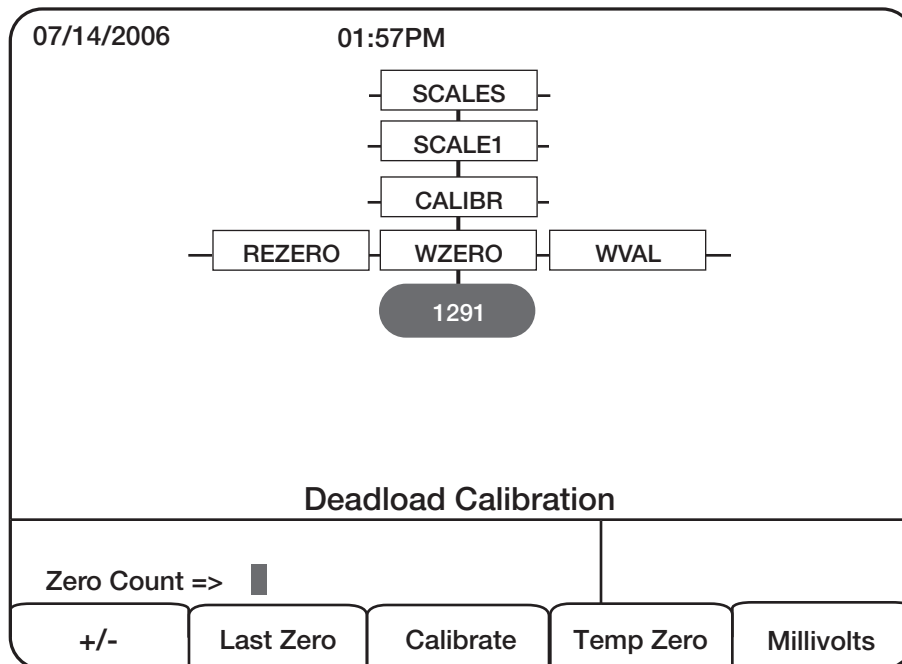

Figure 3-6. WZERO Calibration Display
The CALIBR sub-menu (under the SCALES menu, see Figure 3-6) is used to calibrate the 920i. The zero, span, and linear calibration point displays provide a set of softkeys used specifically for calibration procedures:
5. Press  to go to zero calibration (**WZERO**). See Figure 3-6.